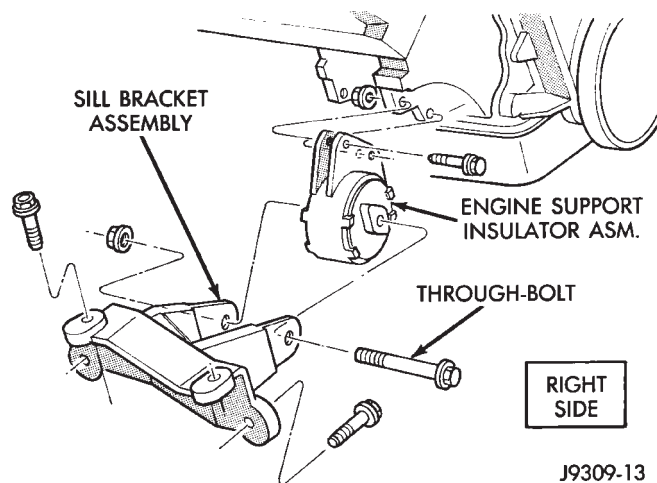

Fig. 4 Engine Front Mount (Right Side)
- (3) Install engine lifting fixture.
- (4) Raise vehicle on hoist.
- (5) Remove the engine support bracket through-bolts (Figs. 4 and 5).
- (6) Raise engine with lifting fixture **SLIGHTLY**. Remove the engine support insulator assembly bolts. Remove the engine support insulator assembly.
(a) **RIGHT SIDE**—Install the sill bracket assembly onto the sill assembly (Fig. 4). Install and tighten the bolts to 54 N•m (40 ft. lbs.) torque.
(2) With the engine raised **SLIGHTLY**, position engine support insulator assembly onto the engine block (Figs. 4 and 5). Install bolts and tighten to 88 N•m (65 ft. lbs.) torque.
(3) Lower engine with lifting fixture while aligning engine support insulator assembly into sill bracket assembly.
(4) Install the through-bolt and tighten the nut to 65 N•m (48 ft. lbs.) torque.
(5) Lower the vehicle.
(6) Remove lifting fixture.
(7) Connect the negative cable to the battery.